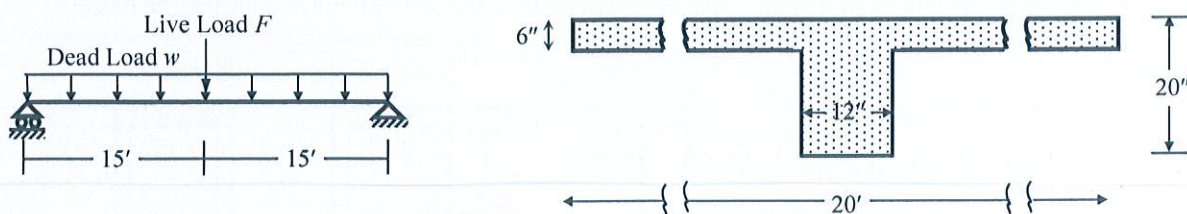

Fig. 3
6. For the simply supported beam shown in Fig. 3 (with the T-section shown), use USD to